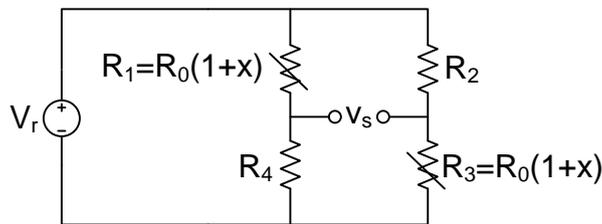
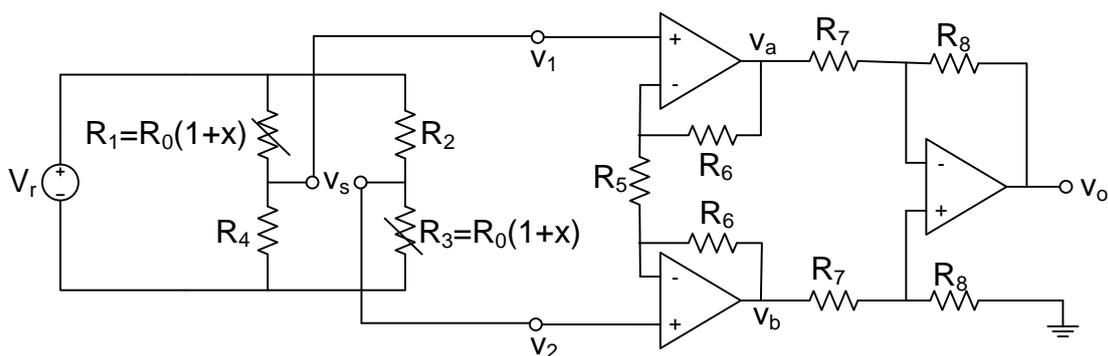

Figure 2: Bridge circuit with two strain gauges.
Figure 3: Sensor circuit with processing circuit.
The two strain gauges and the two fixed resistors are connected in a bridge circuit with a voltage supply V_r . The electrical equivalent circuit of this sensor is shown in Figure 2.
- (5p) (a) The sensor circuit in Figure 2 contains two active strain gauges. You can also design a pressure sensor with only one strain gauge and three fixed resistors. Mention at least one advantage of the circuit shown in Figure 2 compared to a solution with only one active strain gauge.
- (5p) (b) Show that the output voltage v_s of the sensor circuit shown in Figure 2 is equal to 5.00 mV when a pressure of $100 \cdot 10^6 \text{ N/m}^2$ is applied to the metal strip and $V_r = 10 \text{ V}$.
- (5p) (c) The sensor circuit from Figure 2 is connected to an instrumentation amplifier (see Figure 3). Show that the output voltage v_o of the circuit shown in Figure 3 is equal to:
- (5p) (d) Assume that $V_r = 10$ V, $R_6 = R_7 = R_8 = 100k\Omega$. What value should the resistor R_5 have to ensure that the output voltage v_o of the circuit shown in Figure 3 is equal to 2.5 V when a pressure of $200 \cdot 10^6$ N/m² is applied to the metal strip.
- (5p) (f) What happens to the absolute error when the sensing circuit shown in Figure 2 is connected to an instrumentation amplifier while the strain gauges show a temperature dependency as analyzed in exercise 1.e? (Explain your answer)